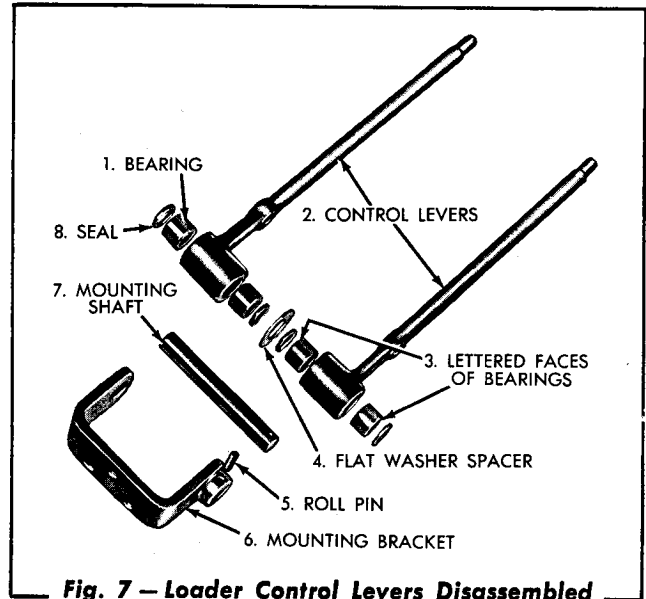

Fig. 7 — Loader Control Levers Disassembled
- d. Drive the roll pin (Fig. 7) from the mounting shaft and remove the shaft, two levers and the flat washer spacer.
Check the bearings for roughness and the mounting shaft for scoring and roughness. Replace all necessary parts. The bearings must be pressed in and out of the control levers. When pressing a bearing in, the lettering on the bearing must be towards the outside (Fig. 7) of the lever boss. Be sure that the seals are installed with the lips to the outside.
Install the loader controls in a direct reversal of the steps in "1. Removal" and referring to Fig. 7 for correct placement of the levers in the mounting bracket.